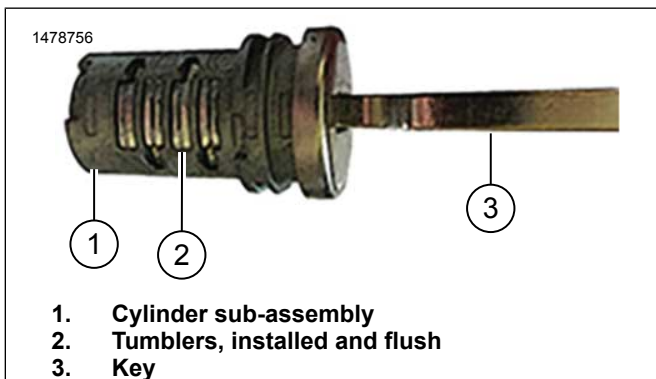

Figure 6. Assembled Lockset
8. See Figure 6. While holding tumblers fully in place, install key in assembled cylinder sub-assembly.